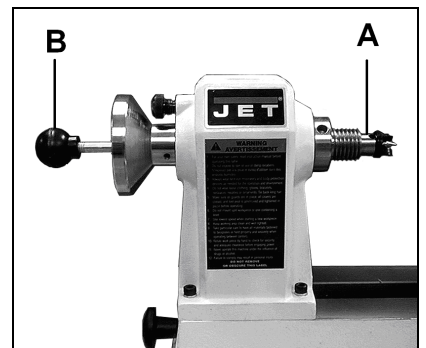

Fig 10
The spur drive centre (A, Fig 10) locks into the spindle taper and can be removed with the knockout rod (B).